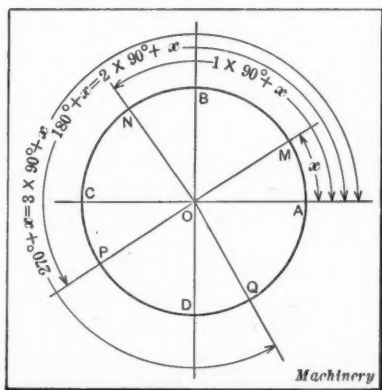

Fig. 1. Angle Diagram
A.—Let x be any angle less than 90 degrees; then any other angle can be expressed as $n \times 90$ degrees + x , n being an integer. For example, 286 degrees, 42 minutes may be written 3×90 degrees + 16 degrees, 42 minutes; 563 degrees, 19 minutes = 6×90 degrees + 23 degrees, 19 minutes; and 52 degrees, 24 minutes = 0×90 degrees + 52 degrees, 24 minutes. As shown in Fig. 1, angles are assumed to increase by the radius starting from OA and moving counter-clockwise about the circle; hence $AOM = x$, $AON = 90$ degrees + x , $AOP = 2 \times 90$ degrees + x , and $AOQ = 3 \times 90$ degrees + x . If the angle is greater than 360 degrees (= 4×90 degrees), subtract 4 (or some multiple of 4), so that n will be less than 4, but not negative. For example, the functions of 563 degrees = 6×90 degrees + 23 degrees are exactly the same as for 2×90 degrees + 23 degrees = 203 degrees. Having expressed the angle in the form $n \times 90$ degrees + x , note whether n is even or odd; if it is even (0, 2,